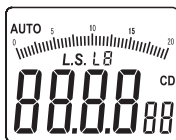

Figure 5-6-3
- Hold the “Lx/Fc/CD” button to save the distance and the LCD display will now show the measured light intensity measurement (as shown in figure 5-6-3).